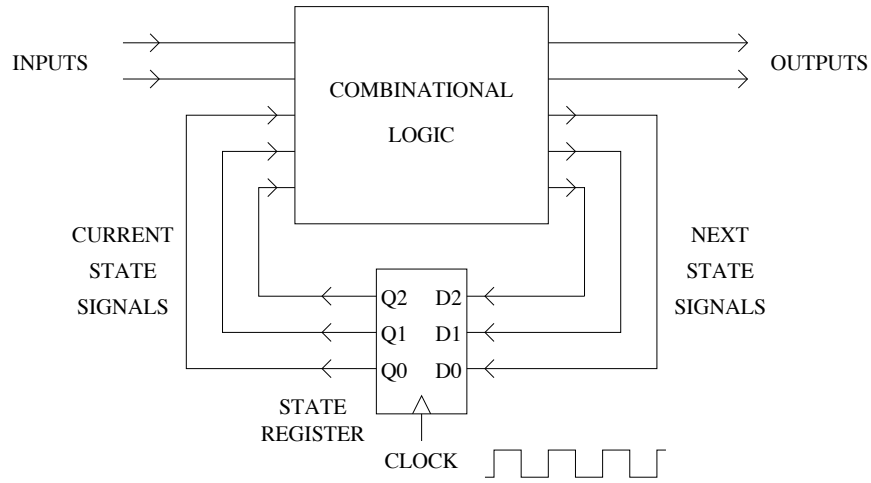

Figure V.5: Generic synchronous sequential circuit.
The sequential circuit implementing this FSM will look similar to the machine of figure V.5. The circuit is started in the state corresponding to the FSM start state, S0 (00) and the input sequence is presented on the inputs to the circuit, one per clock cycle. The circuit moves between states, one state transition per clock cycle. In this particular type of FSM, called *Moore* machine, the output signal depends only on the current state, not on the inputs.